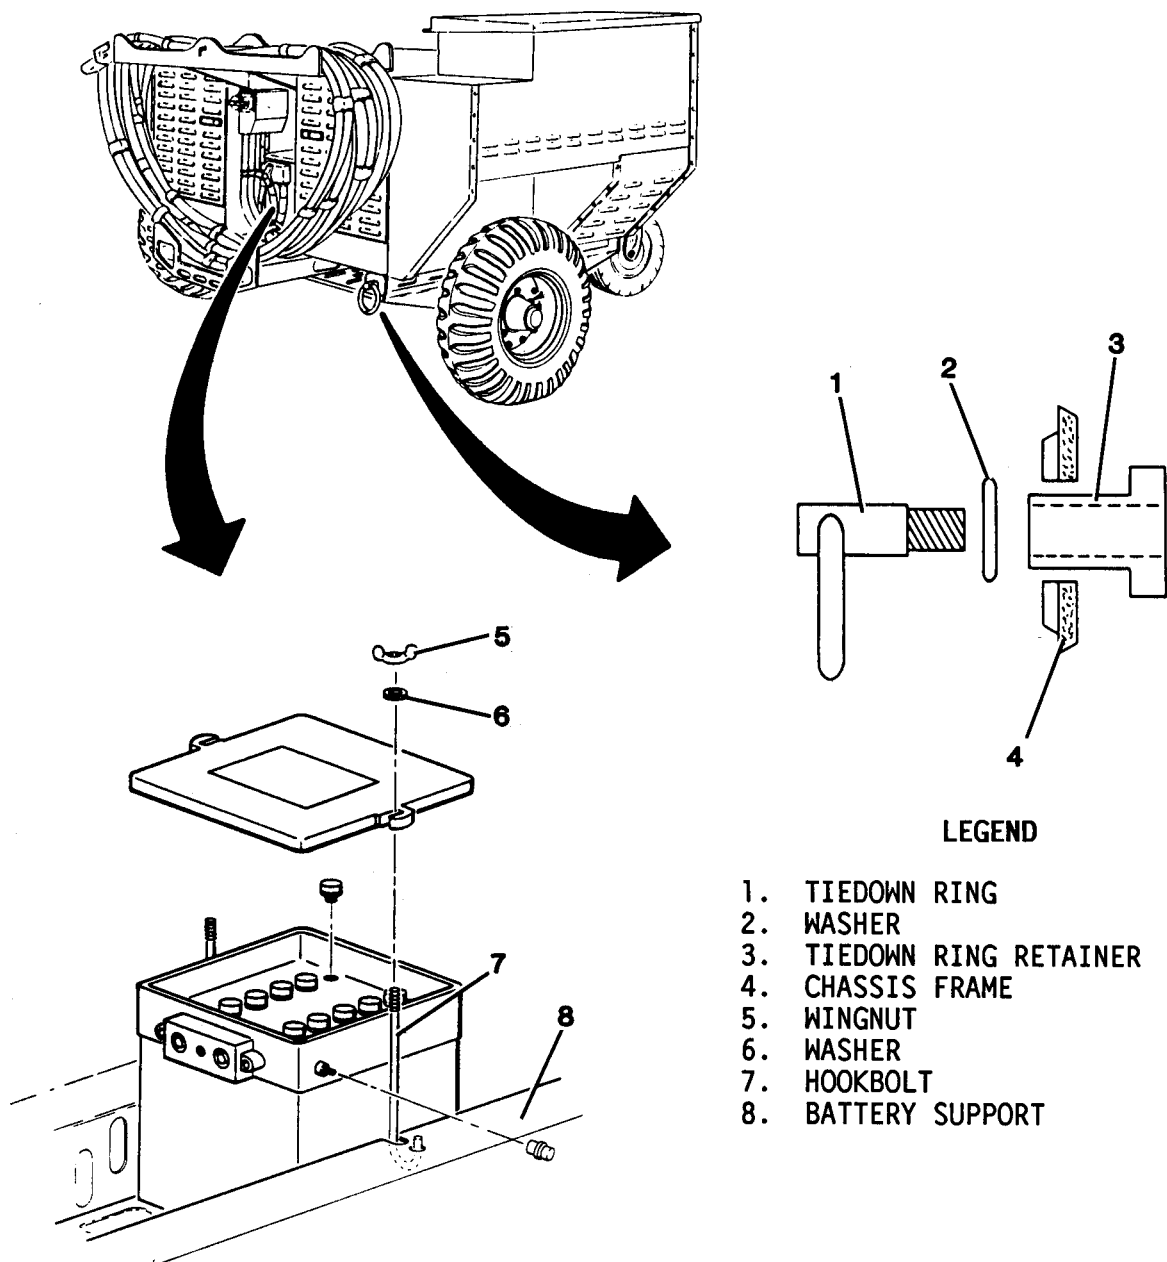

Figure 4-8. Tiedown Ring and Battery Holddown Replacement
**4-14. TIEDOWN RINGS.** Maintenance of the tiedown rings (figure 4-8) is limited to replacement.
(1) Place new tiedown ring retainer (3) in chassis frame (4).
(2) Lightly coat threaded portion of new tiedown ring (1) with thread-locking compound (MIL-S-46163).
(3) Place washer (2) over threaded portion of tiedown ring.
(4) Use wrench or socket to hold tiedown ring retainer. Screw tiedown ring securely into retainer.
**4-15. BATTERY HOLDDOWN.** Maintenance of the battery holddown (figure 4-8) consists of repair and replacement.
(b) Unlatch and open door (24, figure 4-8).